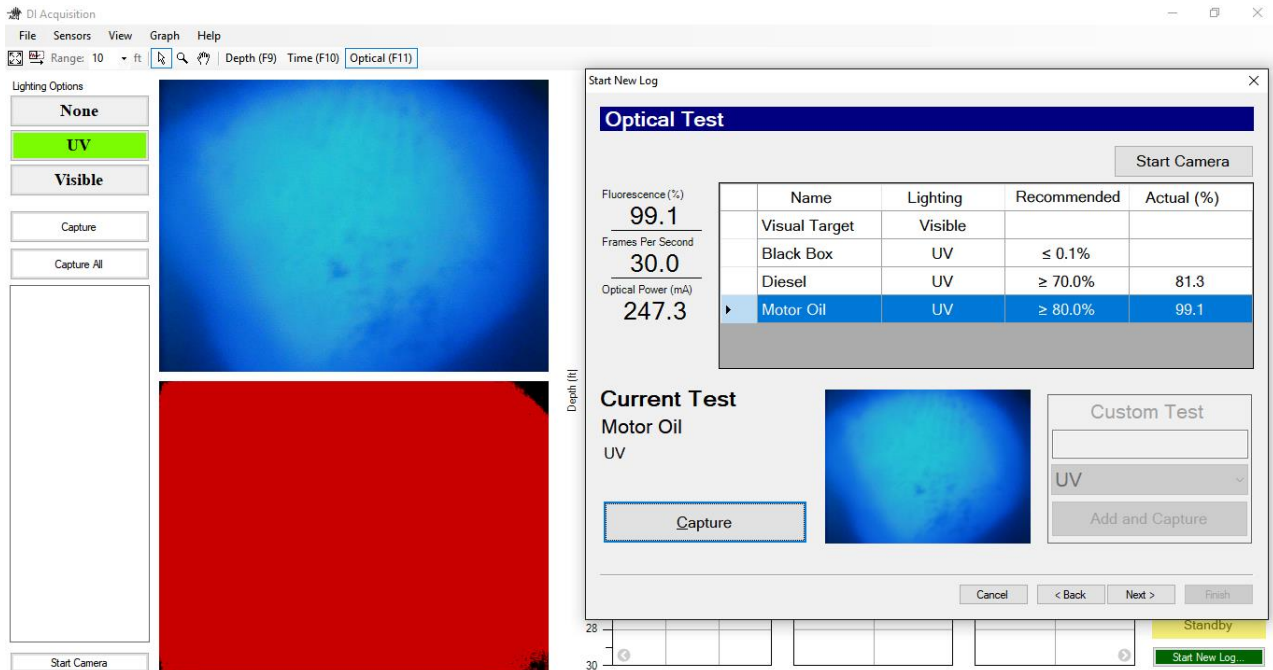

Figure 5.9 DI Acquisition OIP QA Screen with Motor Oil Cuvette
5. Place diesel side of the Cuvette Holder over the OIP window. Use the camera display to ensure the cuvette is centered over the window (Fig. 5.9). Capture the image for the diesel test. The measured fluorescence should be greater than 70%.
6. Place motor oil side of the Cuvette Holder over the OIP window. Use the camera display to ensure the cuvette is centered over the window (Fig. 5.9). Capture the image for the motor oil test. The measured fluorescence should be greater than 80%.